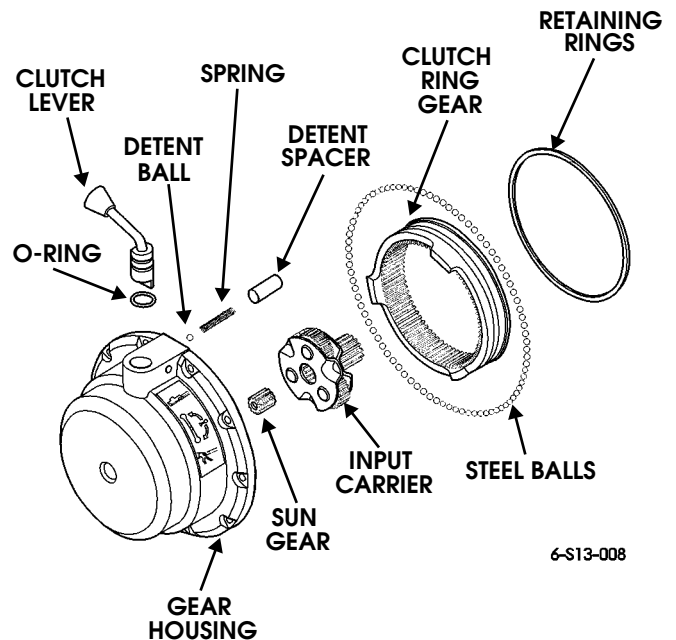

Figure 13-11: Gear Housing
16. Remove detent spacer, spring, and detent ball from gear housing (Figure 13-11).
18. Remove two retaining rings from gear housing (Figure 13-11).
20. Remove input gear carrier assembly from gear housing (Figure 13-11).